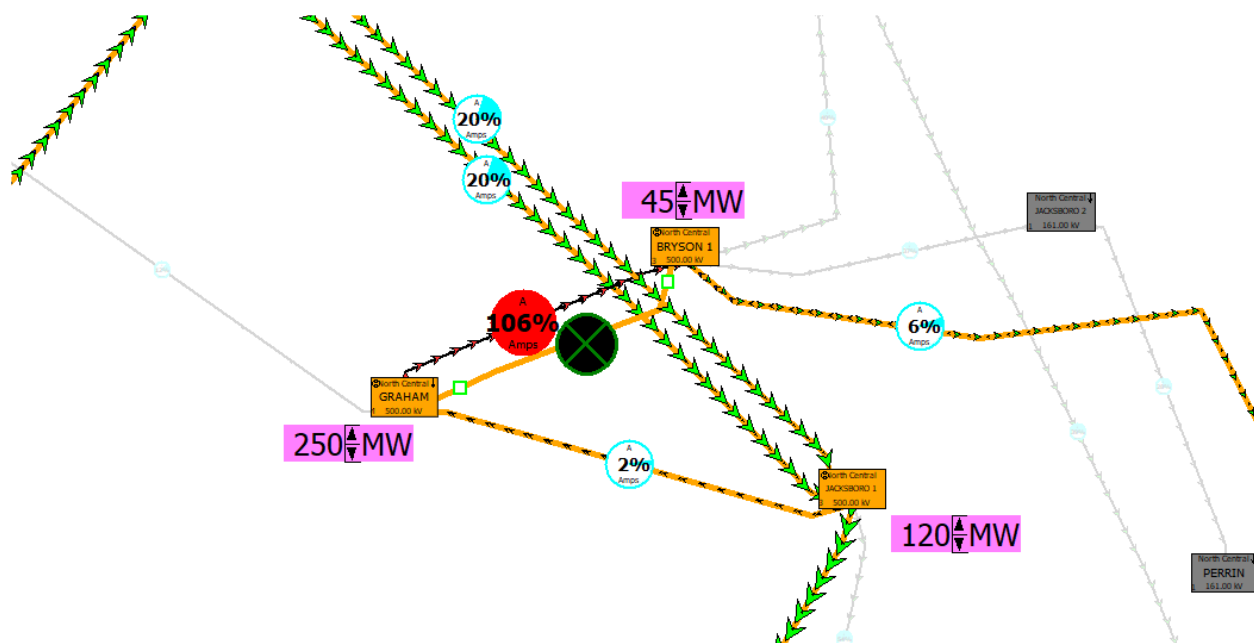

Figure 4: GRAHAM-BRYSON 500 kV Line Contingency
6. Try redispatching the generation to fix both of these contingencies. For convenience the oneline has "Views" defined that show you the contingency location. To zoom to a specific view, right-click on a blank part of the oneline to display the local menu, select **Go To View** and pick the desired view (which are named for the contingencies). To fix each contingency, open the 500 kV line associated with the contingency and change the generation until you've fixed the line violation. Save a screenshot of the solution. Then place the line back in service and attempt to solve the other contingency, again saving a screenshot of your solution. With this case the contingencies are far enough apart that changes to solve one contingency should not have much impact on the other. An example view is shown in Figure 4. Rerun contingency analysis to verify that you have solved both violations.